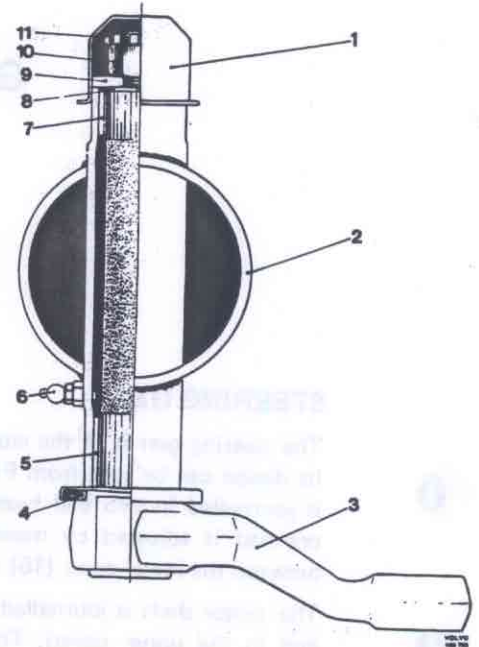

Fig. 64-3. Auxiliary steering arm
The auxiliary steering arm (2) links the tie rod to the upper steering rod. The auxiliary steering arm is journalled in the front tubular member by means of two bushings (5 and 7, Fig. 64-3). Any axial looseness on the auxiliary steering arm can be remedied with the help of shims (8).